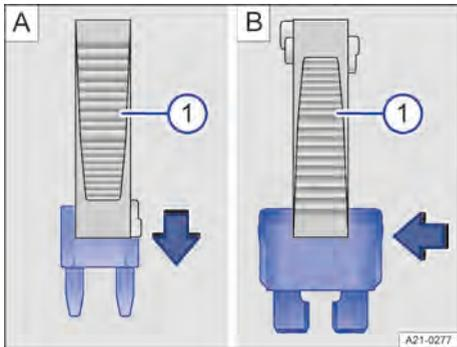

Fig. 172 Removing or inserting fuse (illustration).
① Plastic pliers.
1. If applicable, take the plastic pliers → Fig. 172 ① out of the fuse box cover .
2. Insert the plastic pliers ① from above for *small fuses* → Fig. 172 A or push the plastic pliers ① onto the fuse from the side for *larger fuses* → Fig. 172 B.
4. If the fuse has blown, replace it with a new fuse of the *same* amp rating (same colour and same markings) and *same* size → ①.
① NOTICE